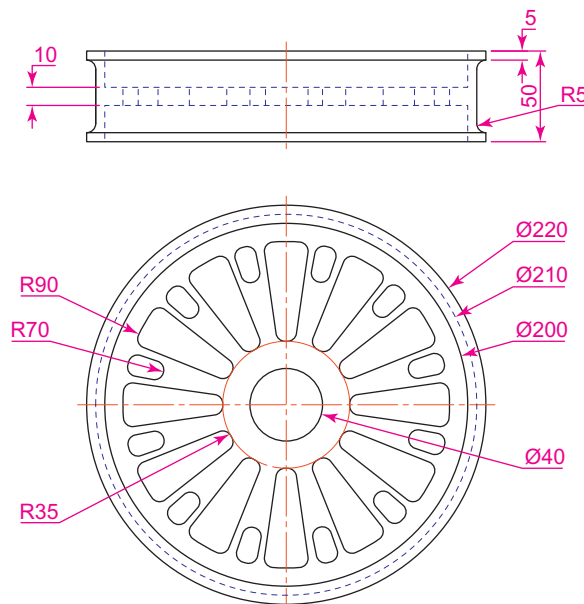

Fig. 18.13 Seventh example – **Color Faces** tool – details of the 3D model
1. Construct a 3D model of the wheel to the sizes as shown in Fig. 18.13.